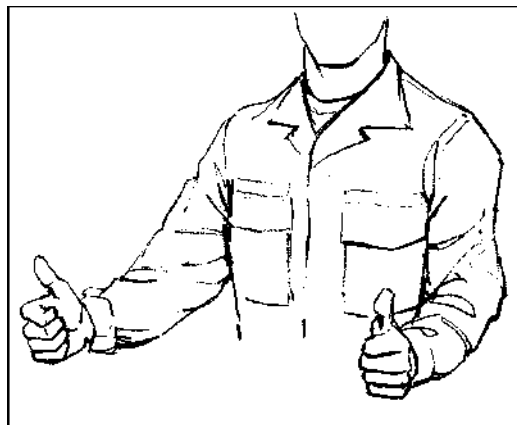

Figure 1-5. Example of arm-and-hand signal GET READY.
(1) *Get Ready*—Rappel master or lane NCO extends both arms to the front with fists clenched and thumbs pointing upward (Figure 1-5). This alerts the rappeller. Each rappeller then looks over his brake hand shoulder to check for the belay man. The rappeller then looks at the rappel master. The rappel master or lane NCO makes his second check of the hookup, rappel seat, snaplink, and equipment.